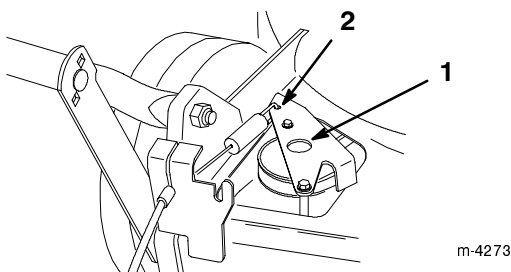

Figure 28
5. Push the drive bracket down until it contacts the lawn mower, then hold it in place (Fig. 28).